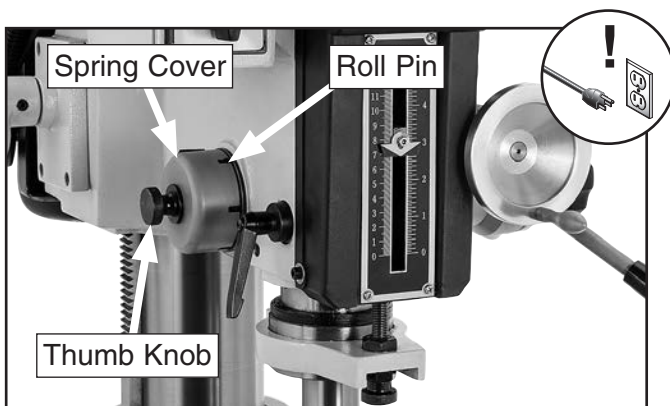

Figure 34. Spring tension components.
3. Loosen thumb knob shown in **Figure 34** 2–3 turns (DO NOT completely remove thumb knob).